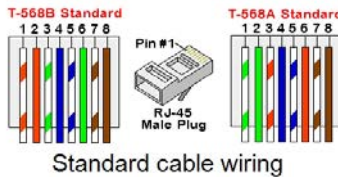

Figure 21: Standard cable wiring
- c. Insert the eight wires into an RJ45 connector, as described in *Figure 21*.
7. For the switch/router side, use a pre-terminated cable or use a crimper to prepare an RJ45 communication connector: Insert the eight wires into the RJ45 connector in the same order as above (*Figure 21*).